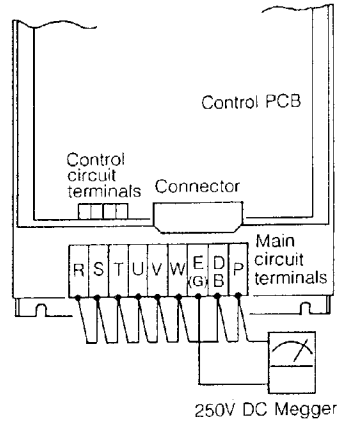

Fig. 5-1 Meggering connection
- ① Remove the external connections from all the drive unit terminals (including control circuit terminals). Connect all the main circuit terminals with a common wire as shown in Fig. 5-1.
- ② Carry out meggering only between the main circuit common wire and earth terminal E(G). Never apply meggering to control circuits and others.
- ③ The drive unit is normal when the megger indicates more than 5M $\Omega$ .